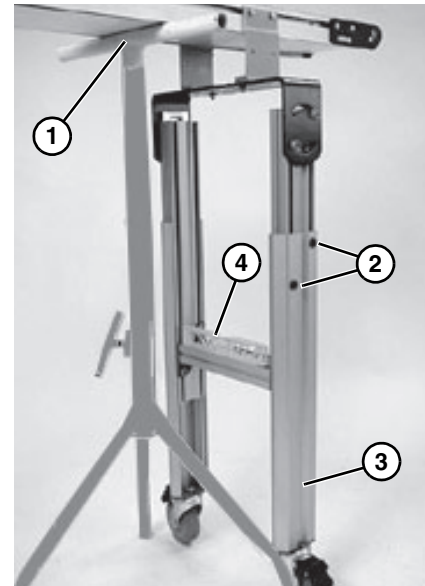

Figure 49
1. Using a support (**Figure 49, item 1**), raise conveyor and stand off the floor.
2. Loosen button screws (**Figure 49, item 2**).
3. Raise or lower stand leg (**Figure 49, item 3**) to the required height. Level stand from side to side using a level (**Figure 49, item 4**).
<p>Failure to secure screws (Figure 49, item 2) may cause conveyor sections to drop down causing severe injury.</p> <p>TIGHTEN SCREWS (Figure 49, item 2) AFTER ADJUSTMENT.</p>
4. Tighten button screws (**Figure 49, item 2**) to 150 in-lb (17 N-m).